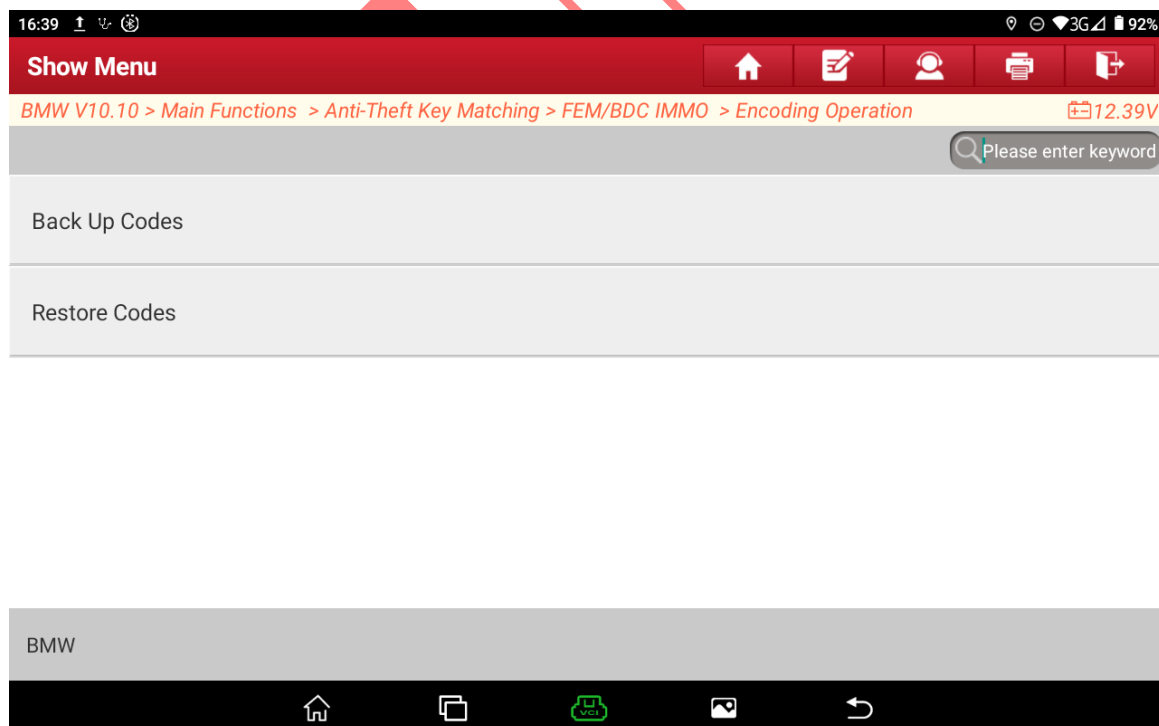

Figure 32
32. Select [Restore Codes], as shown in Figure 32.